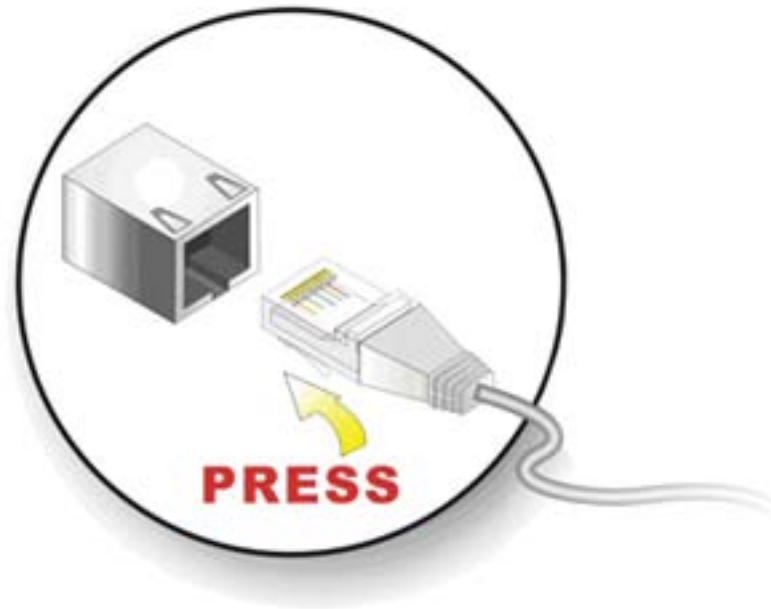

Figure 5-18: LAN Connection
Step 2: Align the connectors. Align the RJ-45 connector on the LAN cable with one of the RJ-45 connectors on the 2807940. See **Figure 5-18**.